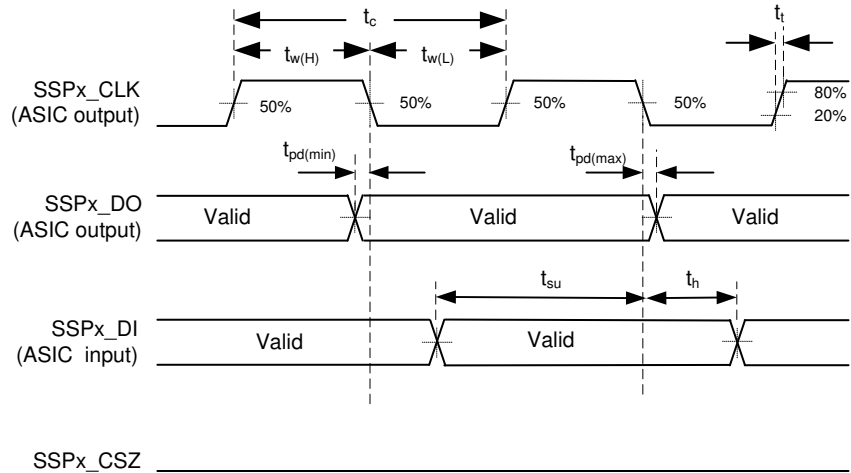
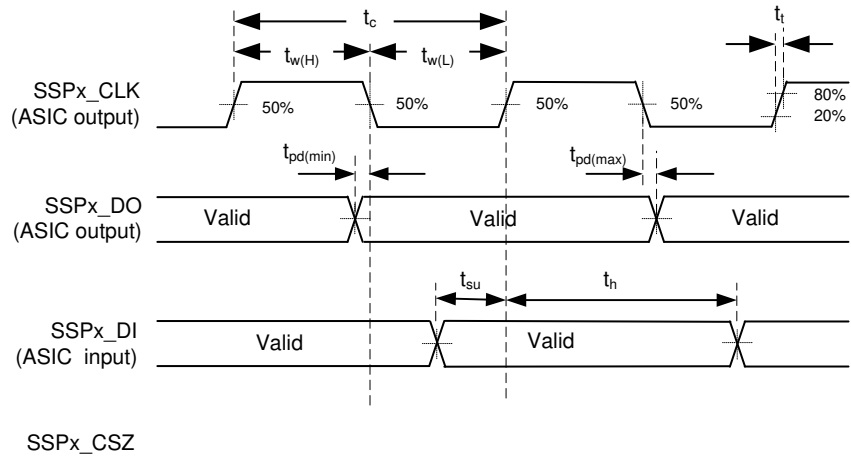

図 5-10. Synchronous Serial Port Interface—Master (Modes 0/3)
図 5-11. Synchronous Serial Port Interface—Slave (Modes 0/3)
- (1) The SSP is configured into four different modes of operation by the controller firmware. These modes are shown in 表 5-2, 図 5-10, and 図 5-11.
- (2) SPI Modes 0 and 3
- (3) SPI Modes 1 and 2